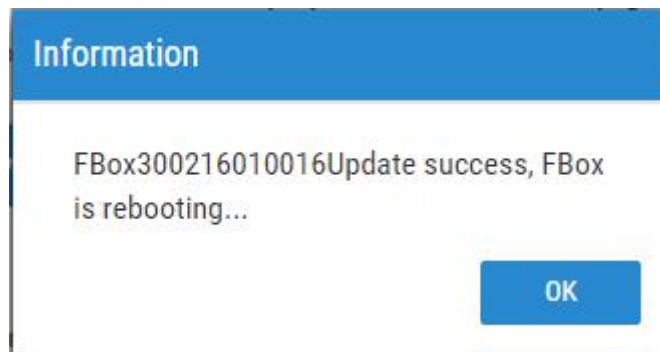

Fig. 4.5-11 System message 4
(4) Click the "OK" button to start the firmware update.
(5) After the update is completed, the fourth system message dialog box will pop up to remind restarting the FBox, as shown in Fig. 4.5-11.